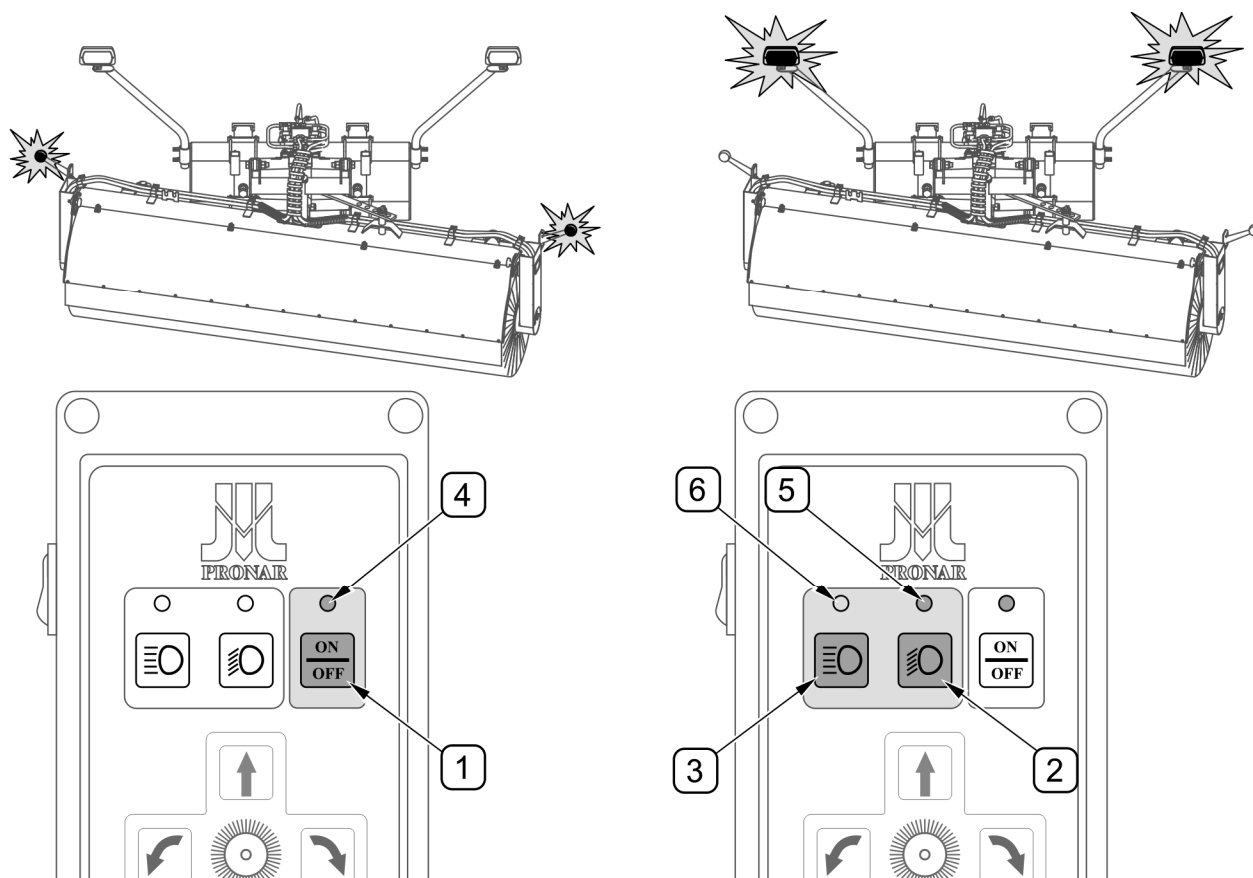

FIG. 4.11 Switching on additional lights (ZM-S25)
(1) - main switch of lights and clearance lights; (2) - dipped beam switch; (3) - high beam switch; (4) - panel activation light (yellow) and switching on marker lights (5) - dipped beam ON indicator light; (6) - high beam ON indicator light
ZM-S25 sweeper is equipped with clearance lights and additional working lights (FIG. 4.11). Push-button (1) ON/OFF is used for switching on and off the machine's clearance lights. Indicator light (4) lights up when the clearance lights are switched on. Po ponownym naciśnięciu przycisku (1) oświetlenie maszyny zostanie wyłączone, lampka (4) zacznie migać a inne przyciski panelu są nieaktywne. To switch on the sweeper's dipped beams or high beams, first switch on the clearance lights. Switch (2) is used for switching on dipped beams while switch (3) is used for switching on high beams. When high beams are switched on the dipped beams are switched off and vice versa. When the lights are switched on (FIG. 4.11), corresponding indicator lights (5) or (6) light up. Lights are switched on by pressing switch (1). The high beam headlights can be switched on permanently only when the dipped beam headlamps are on. When the low beam is not switched on - it is only possible to switch on the main beam at the moment of "holding" the button.
Switch(1) must be ON in order to switch on dipped beams or high beams - indicator light (4) is ON (FIG. 4.11). When clearance lights are switched off the dipped beams and high beams are switched off (applies to ZM-S25)